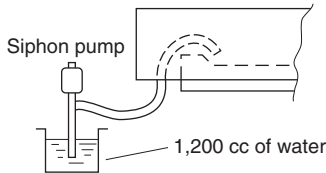

Fig. 3-15
- (3) Pour about 1,200 cc of water into the drain pan using a siphon pump through the air outlet grille. (Fig. 3-15)